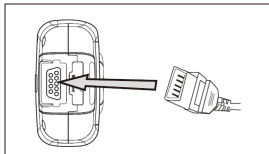

Fig.4.1
2. Insert the SpO2 probe into the probe socket (refer to Fig.4.1). If the SpO2 probe is disconnected from the unit, a prompt "Probe Off" will be shown in the status bar in the top left of the display screen.